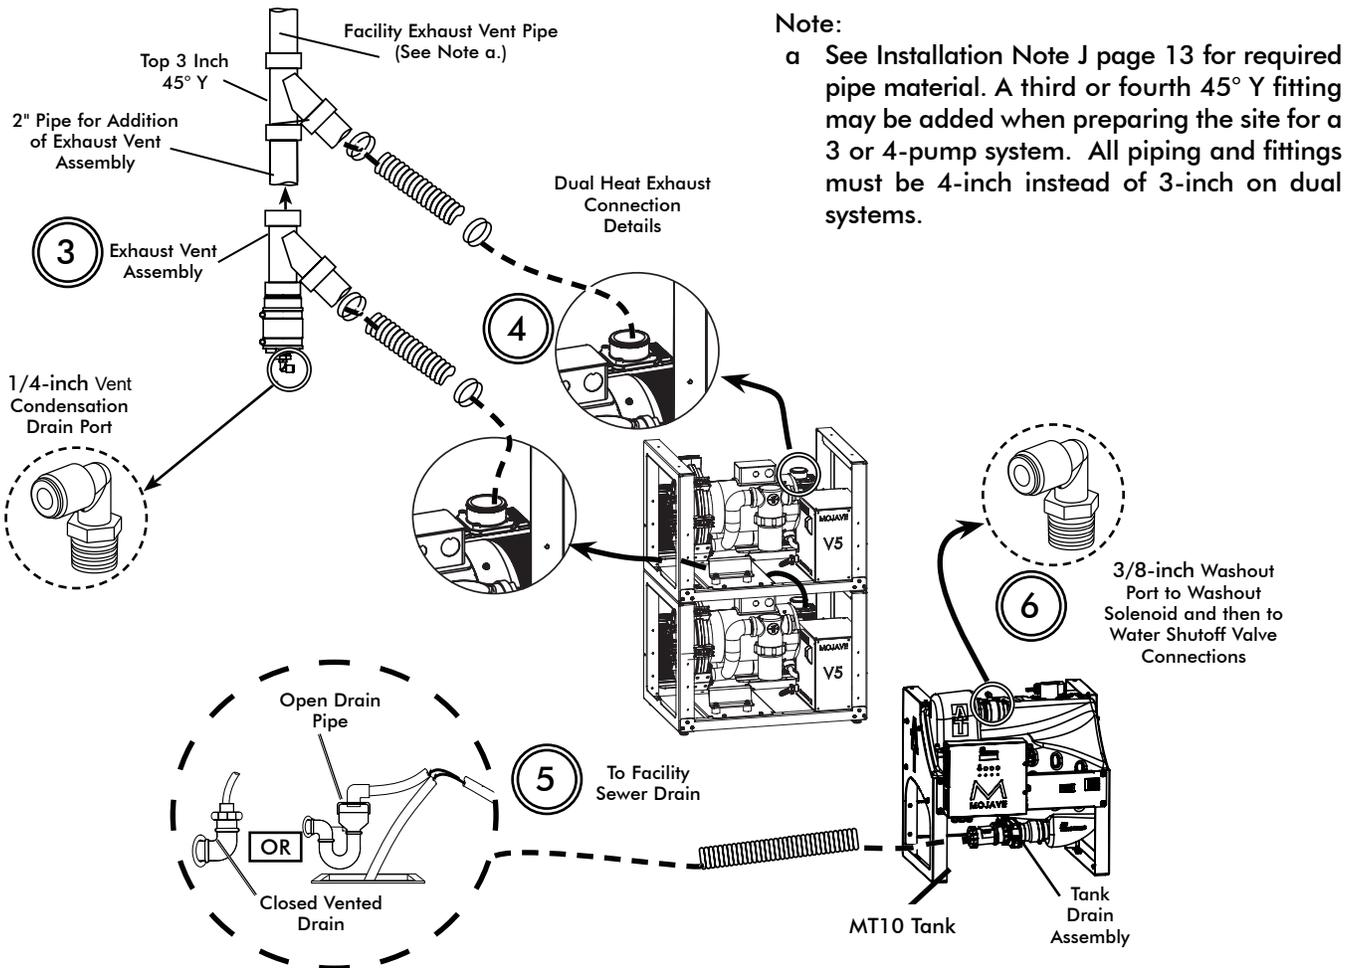

Figure 10. MOJAVE Dual Pump and Tank Connection Diagram, Sheet 2
Installation Accessory Packs. Figure 10 shows the hose connections required for all dual **MOJAVE** system configuration installations using accessory packs that provide the required hoses, clamps and adapters as follows:
- Connect each pump to the facility vent line, connection item (4) on Figure 10, sheet 2.
- Between the suction line and tank inlet. Item (1) on Figure 10, sheet 1.
- Install the Exhaust Vent Assembly to the facility vent line, connection item (3) on Figure 10, sheet 2.
- The tank outlet drain to the facility sewer drain. Item (5) on Figure 10, sheet 2.
- The washout port to the washout solenoid or water shutoff valve. Item (6) on Figure 10, sheet 2.
Between the tank air outlet and each pump inlet. Item (2) on Figure 10, sheet 1.
2V3, 2V3CT, 2V5, 2V5CT and 2V7 Connection Procedure. Using industry standard techniques, make the connections between the tank and pumps with supplied components of accessory packs (P/Ns H5170 or H5307 & H5210) and Dual System Installation Kit (P/N MIK2). Refer to Figure 10, sheets 1 and 2, for the connection diagram and perform the following procedure.
1. **Suction Line to Tank Inlet Connection.** Refer to Figure 10, item (1) .
2. **Tank Air Outlet to Pump Inlets Connection.** Refer to Figure 10, item (2) .
- c. Install a length of 1/4 inch OD Urethane Tubing (P/N 51453) between the vacuum sample port and the vacuum inlet port of the Master Controller. See Figure 10, item (2a.)
3. **Exhaust Vent Assembly Installation.** Install the Exhaust Vent Assembly (P/N H5302) to the bottom end of the facility vent line. Install a length of 1/4 inch OD Urethane Tubing (P/N 51453) between the vent condensation drain port and facility sewer drain. See Figure 10, sheet 2, item (3).
4. **Heat Exhaust Vent Connection.** Refer to Figure 10, sheet 2, item (4) and connect the vent hose (P/N 56057) between the pump heat exchanger and the facility vent line. Secure with two hose clamps (P/N 89324). On systems without heat exchangers (-NHE models), the vent hose is connected directly to the pump exhaust.
6. Fabricate additional reducing Y or tee adapters to connect each pump vent tube to the common 4-inch exhaust vent line. See Figure 10, sheet 2.
4. **Heat Exhaust Vent Connection.** Refer to Figure 10, item (4) and connect the vent hose (P/N 56057) between the pump heat exchanger and the facility vent line via fabricated reducing Y or tee adapters. Secure with hose clamps (P/N 89324). On systems without heat exchangers (-NHE models), the vent hose is connected directly to the pump exhaust.
5. **Tank Drain to Facility Sewer Connection.** Connect the last section of 1 1/2" ID, clear hose cut for installation to the adapter. Secure by tightening the check valve compression nut. Connect unconnected hose end to the facility sewer drain as necessary. See Figure 10, sheet 2, item (5).
6. **Tank Washout Port to Facility Water Connection.** Refer to See Figure 10, sheet 2, item (6) and install a length of 3/8 inch tubing (P/N 19271) between the washout port and the washout solenoid and then to water shutoff valve. The tubing is provided with CT20 or CT22 Tank Accessory Pack, P/N H5243 or H5289.